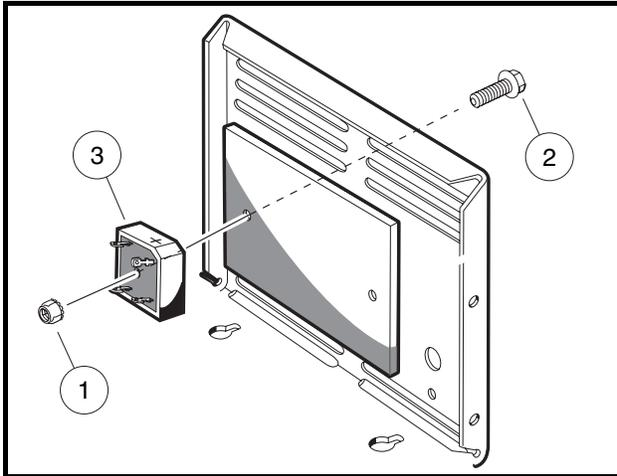

Figure 6-19 Rectifier
4. Remove the nut (1) and screw (2) from the rectifier and remove the rectifier from the heatsink (**Figure 6-19, Page 6-25**).
3. Place the rectifier against the heatsink plate so that the notch in the rectifier is oriented as shown (**Figure 6-19, Page 6-25**). Install the screw (2) and nut (1) through the hole in the charger case, heatsink plate, and rectifier. Tighten the nut to 8 in-lb (0.9 N-m).